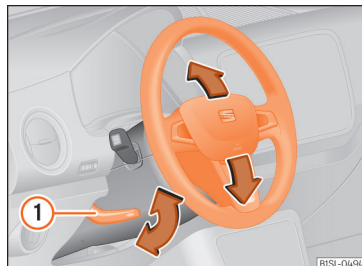

Fig. 18 Mechanical steering wheel adjustment
- Push the lever » » Fig. 18 ① downwards.